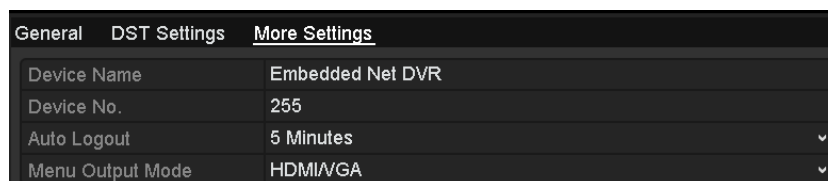

Figure 15. 11 More Settings Interface
2. Click the **More Settings** tab to enter the More Settings interface, as shown in Figure 15. 11.